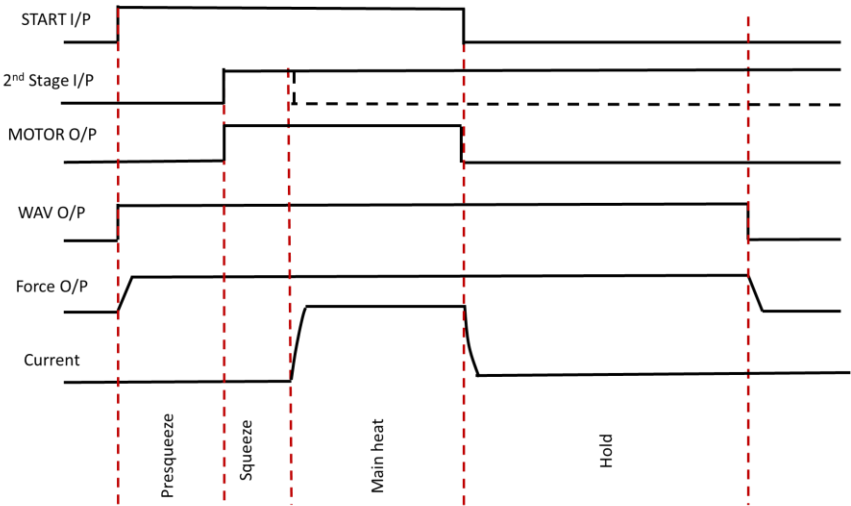

Figure 47: Seam Weld Timing Diagram – Second Stage Before Squeeze
The weld program (schedule) to be programmed will follow the Seam Weld timing diagram shown in **Figure 47**. This example is based on a machine with the configuration defined below:
The steps to program the Weld Program in Figure 47 are as follows:
24) The Spot Weld program corresponding to the seam welding timing diagram in **Figure 47** has now been stored in the iPAK2v2 weld control and it is ready for use.